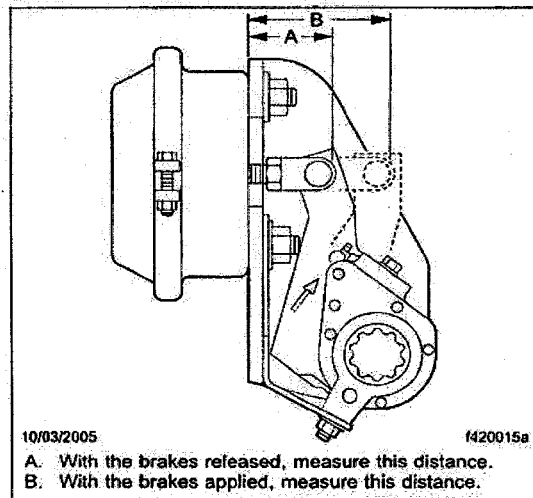

Fig. 11.16, Brake Stroke Check, Haldex Automatic Slack Adjuster
If the control arm is fully released, install the clevis pin. If the holes in the adjuster and the clevis do not remain aligned, it means the control arm is not against the internal body stop. This indicates an incorrect installation. Move the adjuster into alignment with the clevis hole and install the clevis pin. Loosen the control-arm nut and rotate the control arm toward the brake chamber until you can feel it contacting the internal stop. See Fig. 11.16, Ref. A. Be sure the control-arm stud moves freely in the slot of the anchor strap.
- With the brakes released, measure the distance from the face of the air chamber to the far side of the clevis-pin hole. See Fig. 11.16, Ref. A.
- Apply the service brakes and hold them on full line pressure of at least 80 psi (550 kPa). Measure the distance from the face of the brake chamber to the far side of the clevis pin hole. See Fig. 11.16, Ref. B. Record the exact distance as measurement B.